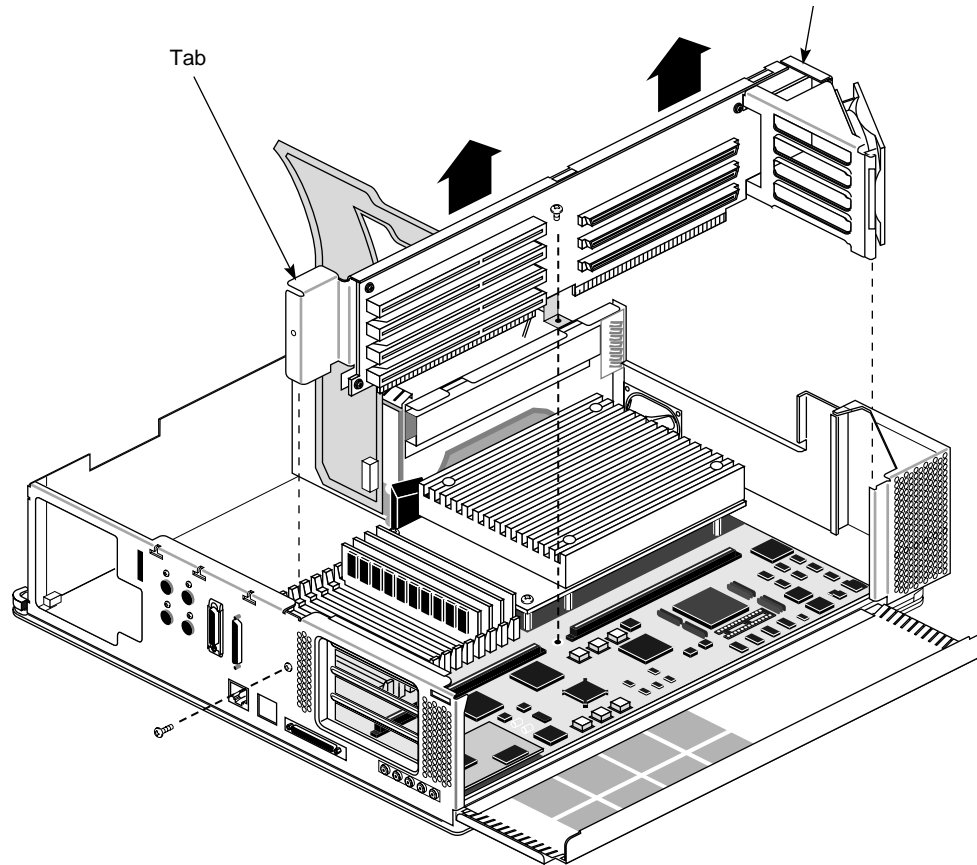

Figure 2-10 Removing the Old Backplane and Fan Assembly
10. Remove the two screws that fasten the EISA/GIObus backplane to the chassis, as shown in Figure 2-10. The first screw connects the backplane to the rear sheet-metal frame of the Indigo²; the second secures the backplane to the motherboard.